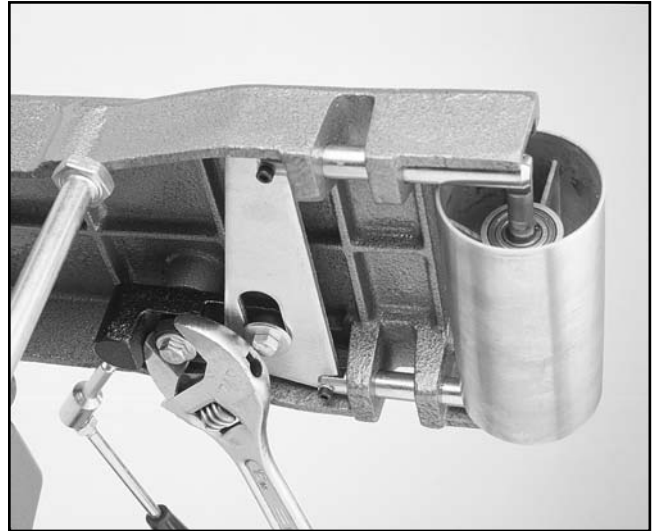

Figure 15.
2. Use a large open end adjustable wrench and carefully rotate the eccentric, PN # 84A to increase or decrease tension. Remember: The belt should not sound like a drum when plucked. If it does, decrease the tension. **Figure 15.**